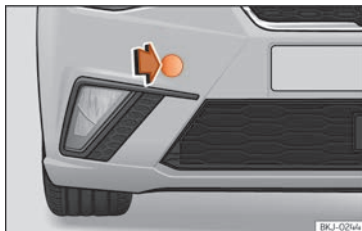

Fig. 47 Right side of the front bumper: remove the cover.
The housing of the removable towline anchorage is on the right side of the front bumper underneath a cover » **Fig. 47.**
- Remove the cover by pressing down on its left-hand side and leave it hanging from the vehicle » **Fig. 47.**